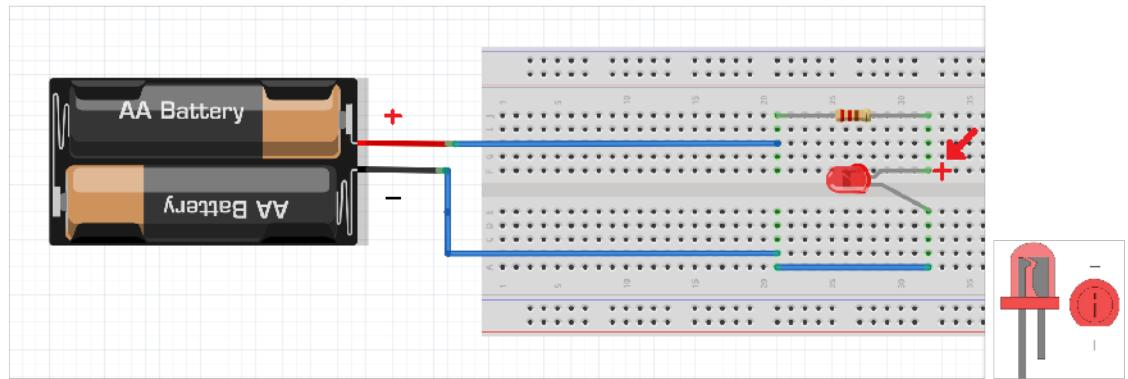

Figure 6: Breadboard Circuit, LED.
An LED circuit can be assembled using a resistor and a battery as the power source, Figure 6.
- 1. Remove the battery cables:** Unplug the positive and negative wires that connect the battery holder to the LED circuit (Figure 6).